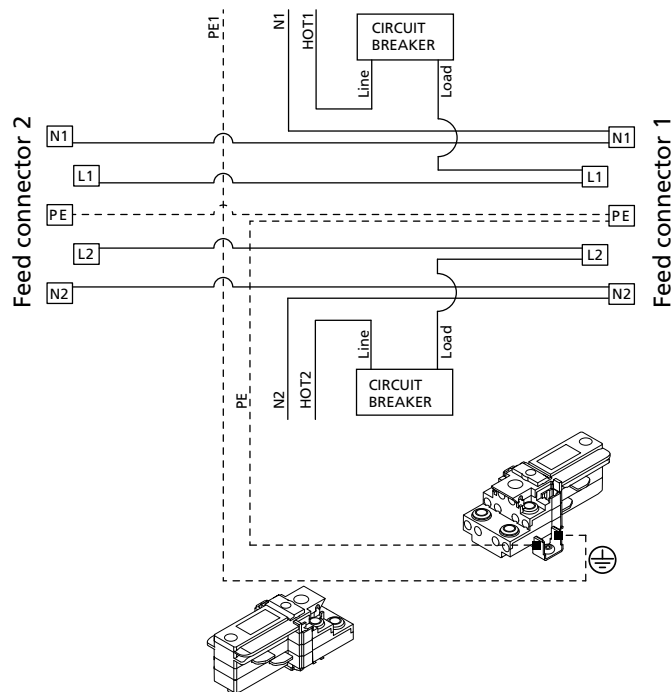

Figure 18: In-line feed wiring
- 2: Strip white Neutral wire and connect to Neutral 1 terminal (N1) of feed connector. Clamp wire using screw. See Figure 18.